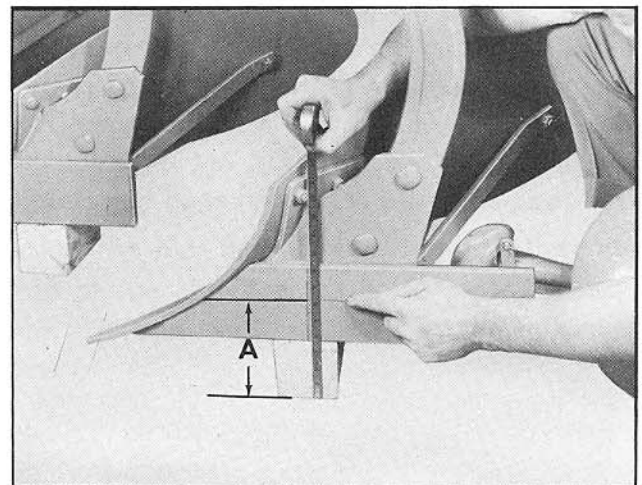

Fig. 16 Dimension "A"
3. Measure the distance from the center line of the lower beam bolt hole to the level surface as shown in Fig. 16. Refer to this distance as dimension "A".
For Dimension "A" Refer to Fig. 16
4. Measure the distance from the flat surface to the center line of the lower beam bolt and call this dimension "A". See Fig. 16.